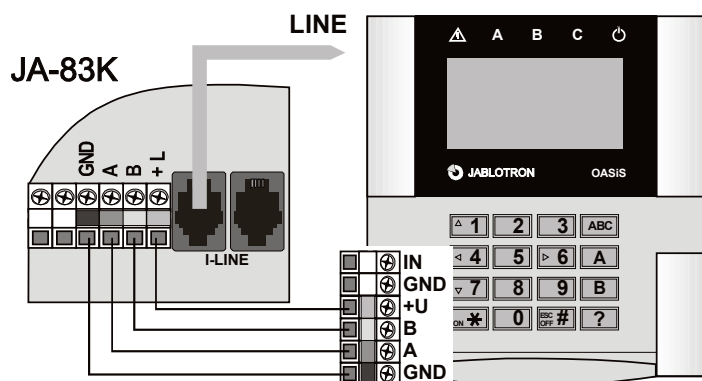

fig. 1 Connection with the control panel
- o Use a **flat four-wire telephone cable** with RJ connectors (max. 10 metres) but only for **temporary (test) installation**. There is a digital bus connector called LINE in the control panel, and in the keypad too. See fig. 1.